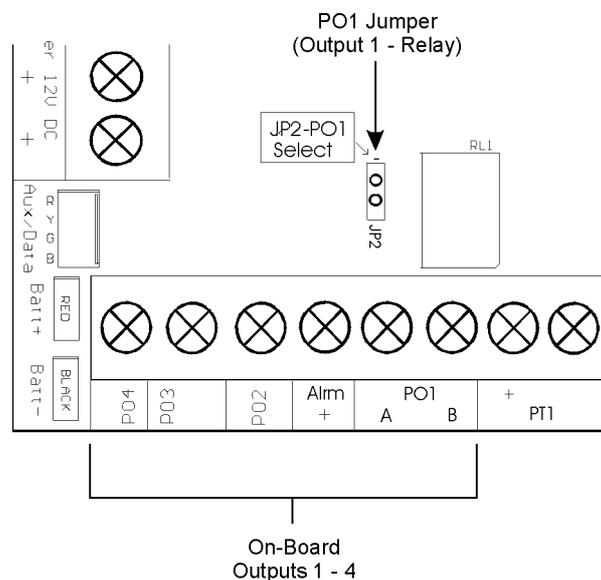

Figure 16: On-Board Outputs
- PO1 – Output 1 (Relay)** PO1 terminals can be configured as an alarm power output. JP2 jumper must be closed (See Figure 16 below). This output can provide up to 500 mA at 12 VDC.